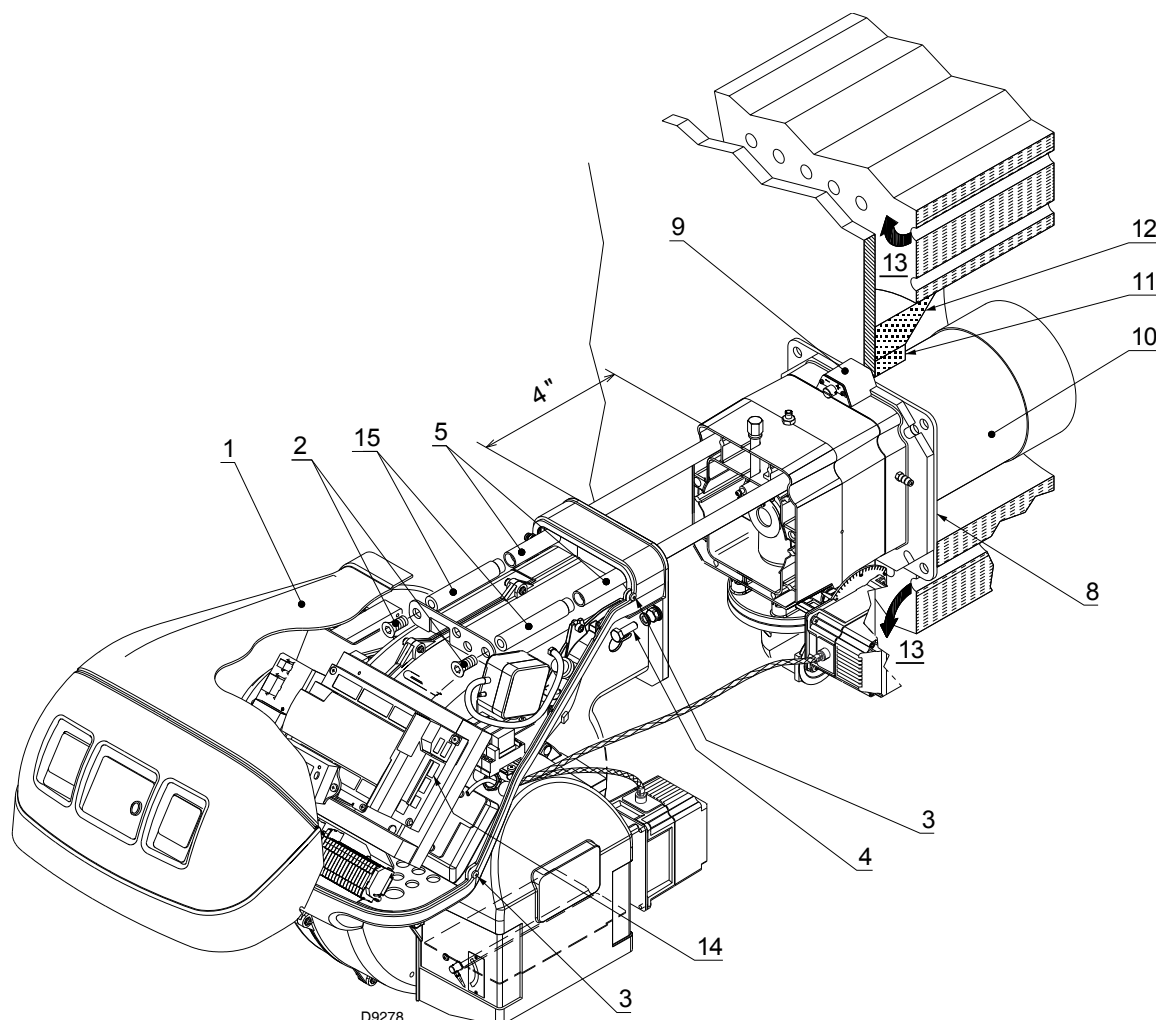

Fig. 11
- For boilers with front flue passes 13) (Fig. 11) or flame inversion chambers, a protection in refractory material 11) must be inserted between the boiler refractory 12) and the blast tube 10). This protection must not compromise the extraction of the blast tube.
- For boilers with a water-cooled frontal, a refractory lining is not necessary 11)-12) (Fig. 11) unless expressly requested by the boiler manufacturer.
Secure the burner to the boiler, fixing the flange 9) (Fig. 11) to the boiler plate and interposing the insulating gasket 8).
- loosen the 4 screws 3 (Fig. 11) and remove the hood 1);
- reassemble the burner on the guides 3) at about 4" from the pipe coupling 4) - burner in the position shown in Fig. 11;